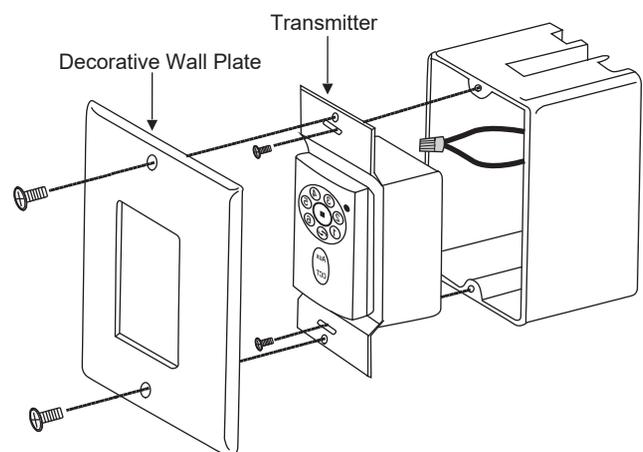

Figure 20
b. Carefully tuck the wire connections inside the outlet box. Use the screws provided to secure the wall transmitter and wall plate to the outlet box. (Fig. 20)